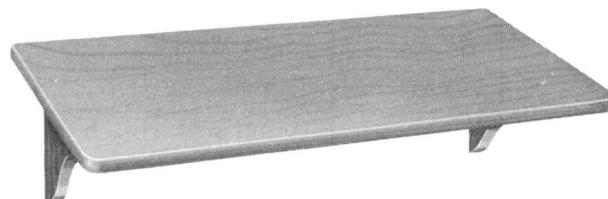

Fig. 1 — 11-Type Directory Shelf
3.01 The 11-type shelf is shown in Fig. 1. The 12- and 13-types are similar; they differ only in length. Refer to Table A for dimensions.